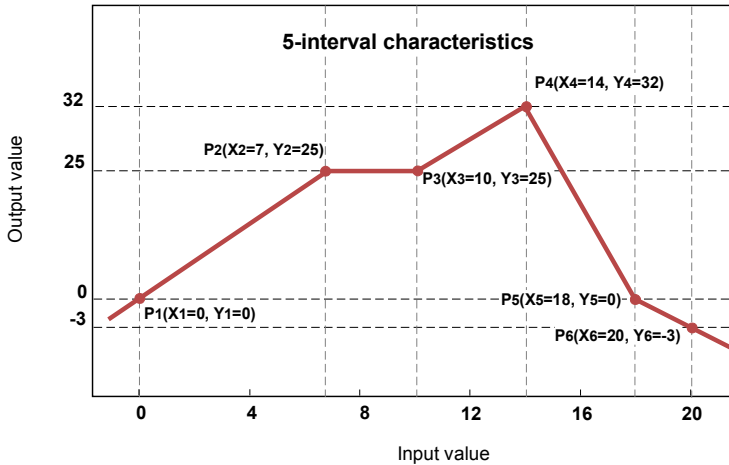

Fig. 7.38. Example of user characteristic
- d) **user char.** - is defined as a set of X-Y points. The number of the points is variable and may be set from 2 to 20 points which create linear segments (see Fig. 7.38). After choosing this option, the following parameter appears:
,where '**slope**' and '**offset**' are the coefficients of a segment contained between two points (see **Fig. 7.38**), and **n = 1, 2 ..** is the number of the segment.
The steps to create a user characteristic consisting of 6 points (like in Fig. 7.38):